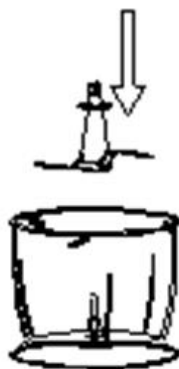

Fig. 1
2. Assemble the stainless chopping blade into the chopper bowl, as shown in Fig.1.